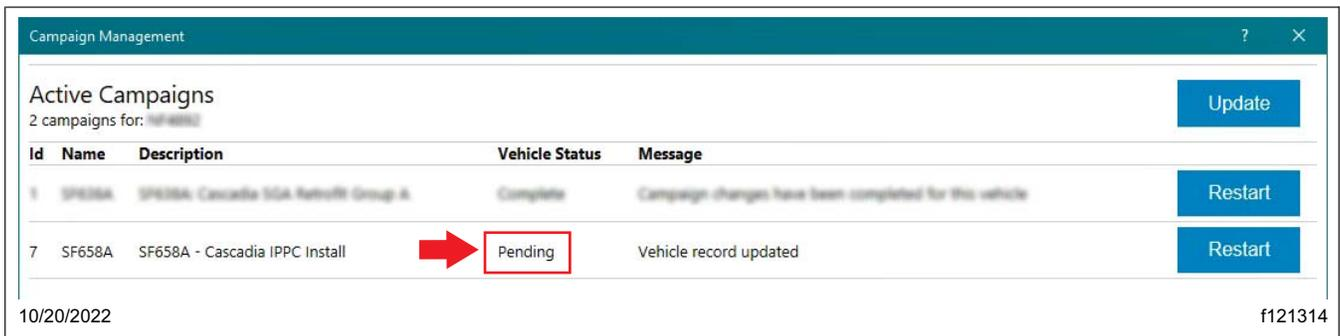

Fig. 12, Vehicle Status Changed to Pending
18.4 Wait for the 'Vehicle Status' to be displayed as 'Pending.' See Fig. 12.